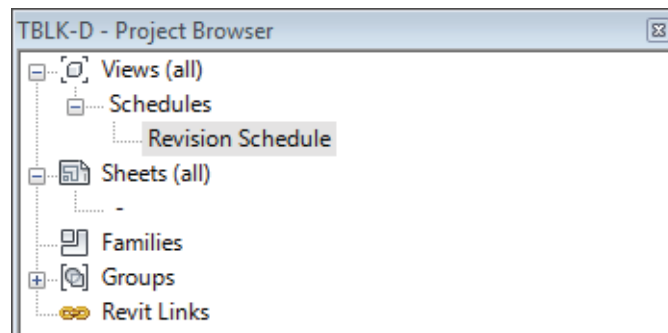

Figure 1–51
8. Move it above the sheet name and resize it to display several lines, as shown in Figure 1–52.